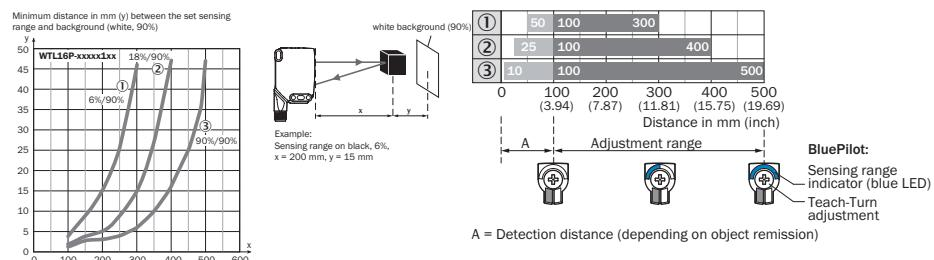
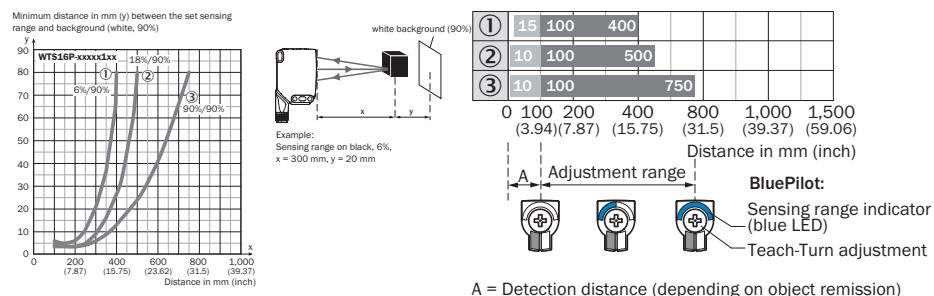

Figure 2: Characteristic line 1, WTL16P-xxxxx1xx, red light
Figure 3: Characteristic line 1, WTS16P-xxxxx1xx, red light
Check the application conditions: Adjust the sensing range and distance to the object or background as well as the remission capability of the object according to the corresponding diagram [see figure 2, figure 3] (x = sensing range, y = minimum distance between set sensing range and background [white 90%]). Remission: 6% = black ①, 18% = gray ②, 90% = white ③ (referring to standard white as per DIN 5033). We recommend that the adjustment be performed with an object of low remission.
The minimum distance (= y) for the background suppression can be determined from the diagram [figure 2 ①] as follows: